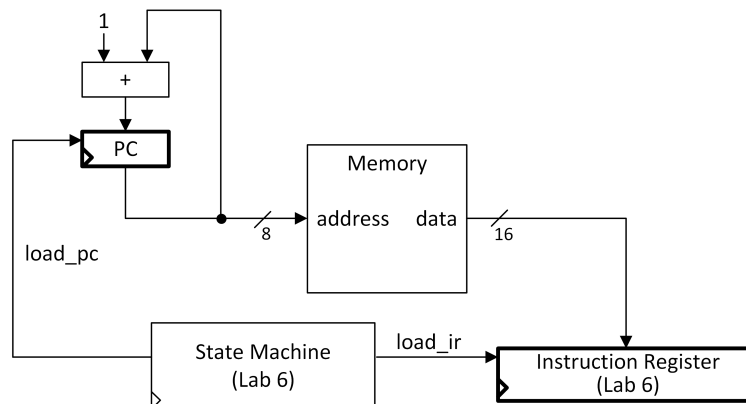

Figure 1: Adding an instruction memory and program counter (simplified).
Figure 1 illustrates a *simplified* view of how one might interface memory containing instructions to the components from Lab 6. Each memory location holds 16-bits versus 8-bits for ARMv7. Each Simple RISC Machine instruction is also 16-bits long and thus occupies one memory location. A program counter (PC) is connected to the address input of the memory. The PC contains the address of the next instruction to
execute and is implemented with a register with load enable. The memory contains 256 memory locations thus the program counter is  $\log_2(256) = 8$ -bits wide. Note that, unlike in ARMv7, the PC in the Simple RISC Machine architecture is not a register inside the register file. The PC is updated when the load enable input, `load_pc`, is set to 1 by the state machine. In Figure 1 the PC is updated by adding 1 to compute the address of the next instruction. The bonus adds branches enabling the PC to change by other values.